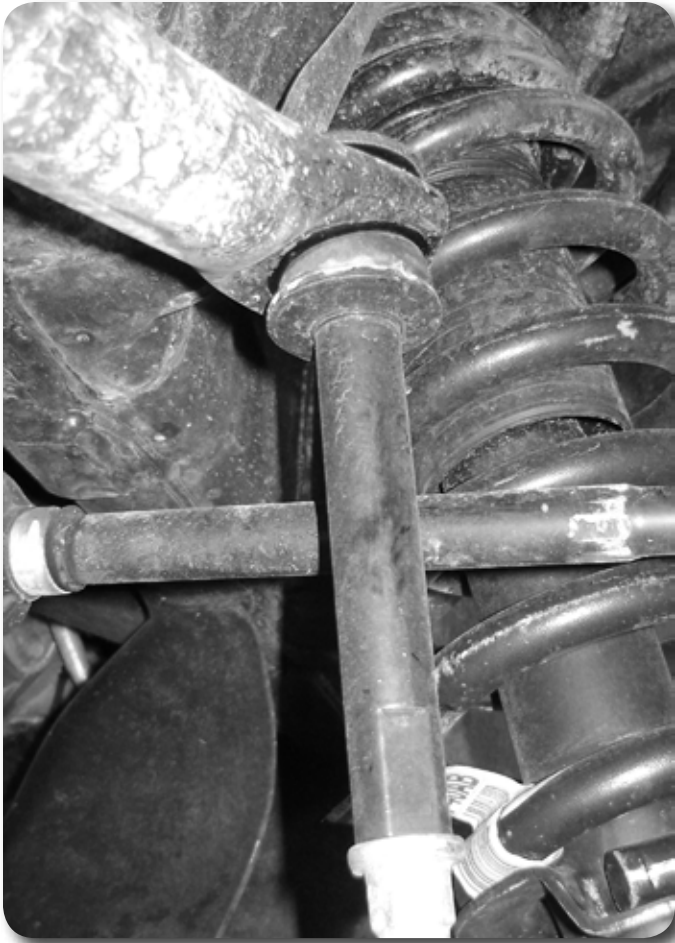

Figure 22
61. Install the sway bar link extensions onto the factory sway bar links. Reattach the sway bar with factory bushings, new cup washers, and new 7/16 nuts. Tighten until the bushings begin to swell - Do NOT overtighten, this will cause premature bushing wear. **Figure 22**